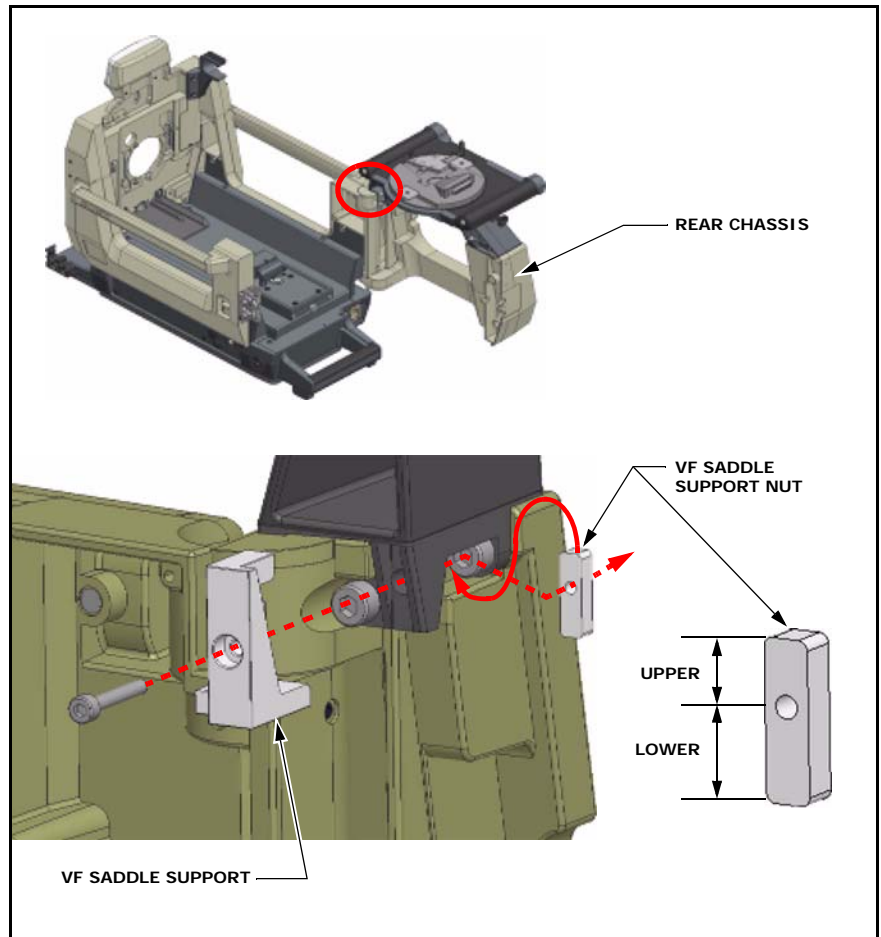

Figure 3
2. Install the VF saddle support as follows and as shown in Figure 3.